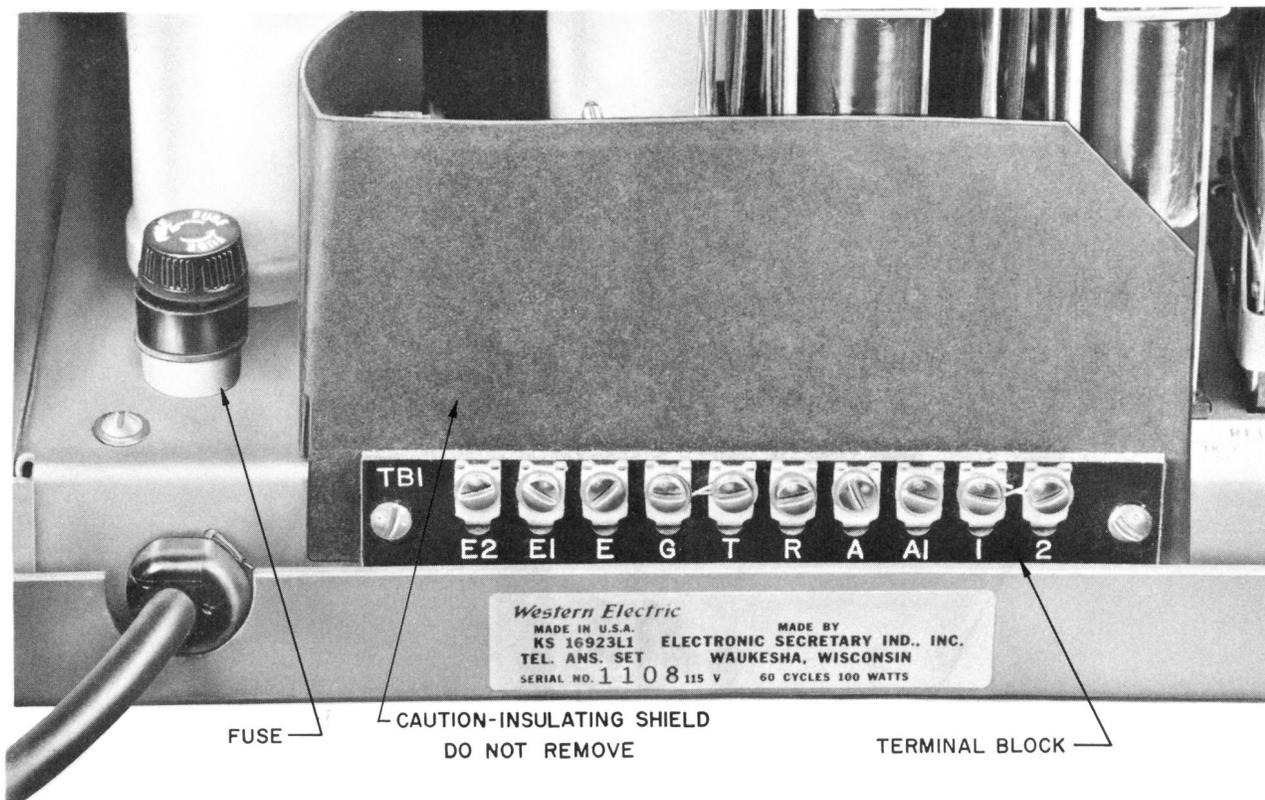

Fig. 2 — KS-16923, List 1 Telephone Answering Set, Left Side
2.04 A 1-ampere (AGC 1) fuse is provided in answering set for protection (Fig. 2).